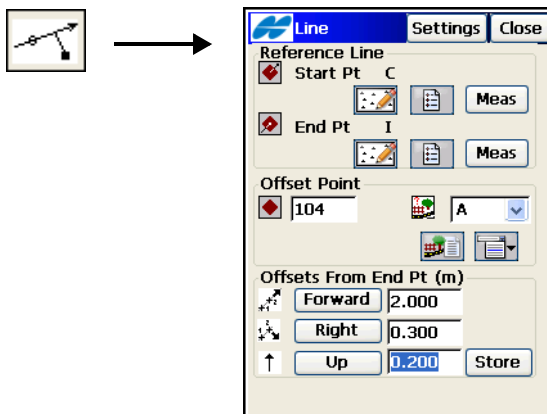

Figure 9-10. Line Screen
- **Line** – opens the *Line* screen to define a point, set by the offset from a line. See Figure 9-10 on page 9-10.
The **Line** screen (Figure 9-10) is used to enter the parameters defining a point that are not available physically, relative to some reference line.
- *Offsets From End Pt (m)* – the offset values include (Figure 9-10 on page 9-10):